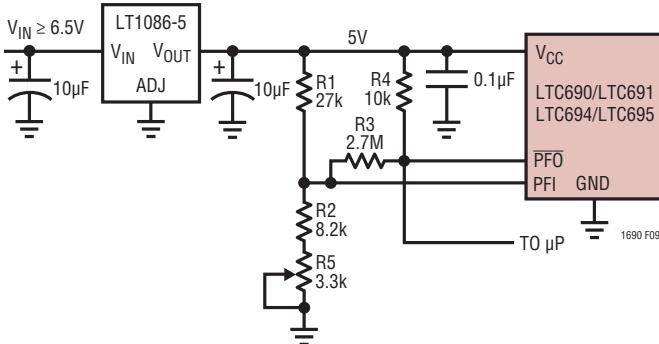

Figure 9. Monitoring Regulated DC Supply with the LTC690's Power-Fail Comparator
**Example 2:** The circuit in Figure 9 can be used to measure the regulated 5V supply to provide early warning of power failure. Because of variations in the PFI threshold, this circuit requires adjustment to ensure the PFI comparator trips before the reset threshold is reached. Adjust  $R_5$  such that the  $\overline{PFO}$  output goes low when the  $V_{\text{CC}}$  supply reaches the desired level (e.g., 4.85V).